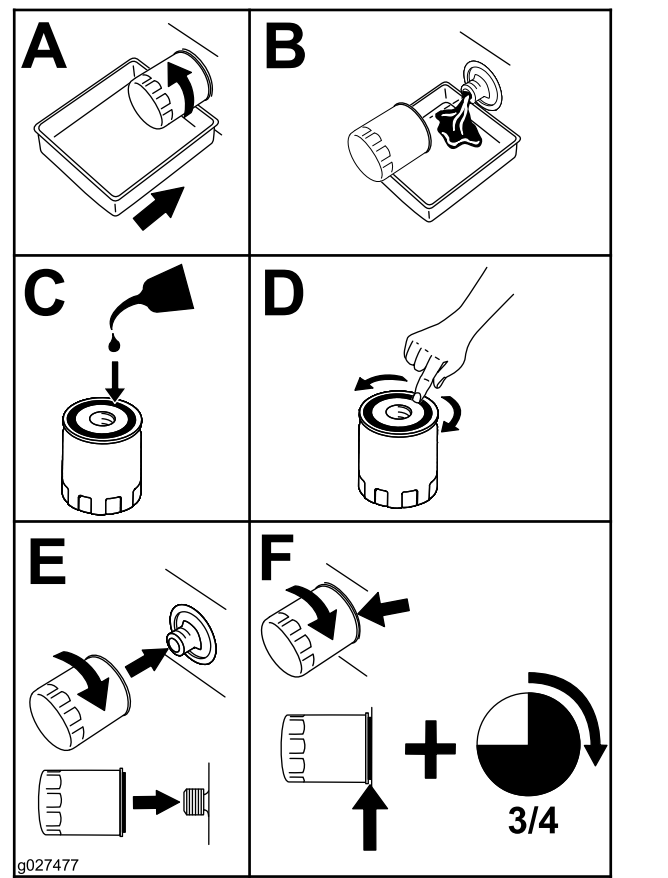

Figure 44
5. Replace the engine-oil filter as shown in Figure 44.